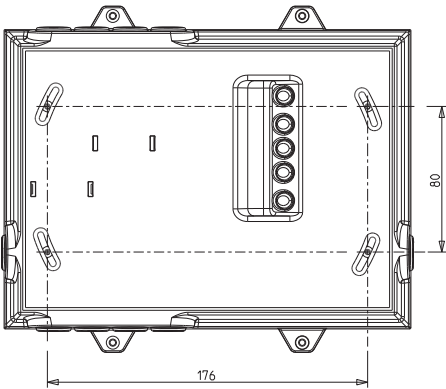

Fig. 8: Back View of P-WDP - Fixing Screw Positions
- 2 Prepare four holes in the wall by following the dimensions given in Figure 8 for the screws plugs supplied.
- 3 Mount the P-WDP on the wall using the screw plugs and fixing screws supplied (refer to item 5).